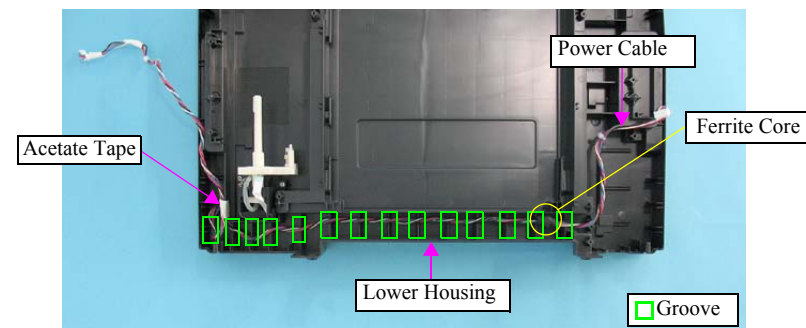

Figure 4-72. Removing the Power Cable
- As shown in Figure.4-72, route the power cable through the 14 grooves on the Lower Housing.